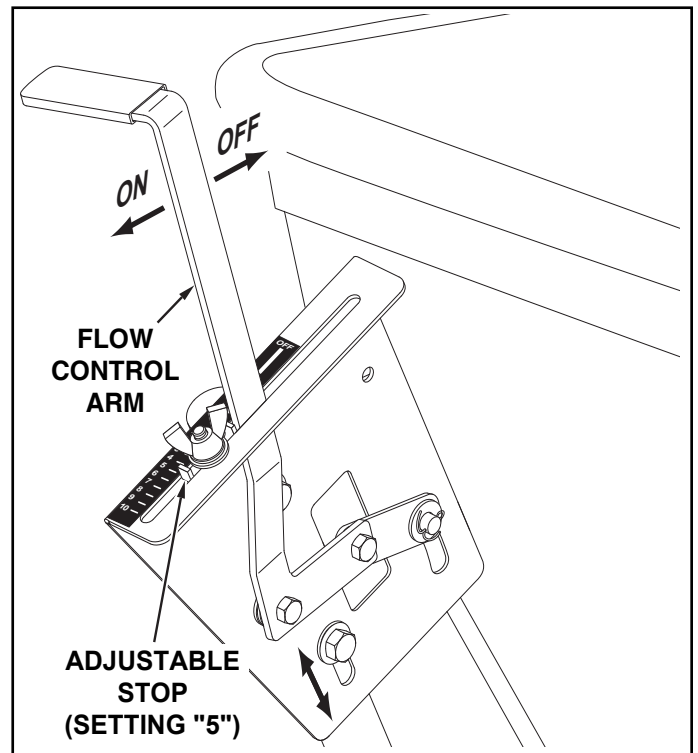

FIGURE 13
23. Position the flow control mounting bracket (figure 13).
(Refer to figure 13 on page 8.)